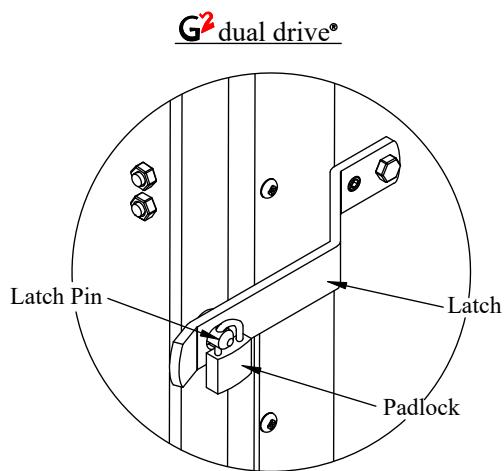

Figure 18: Padlock location.
- 9. Lock** the padlock through the hole in the latch pin (Figure 18).